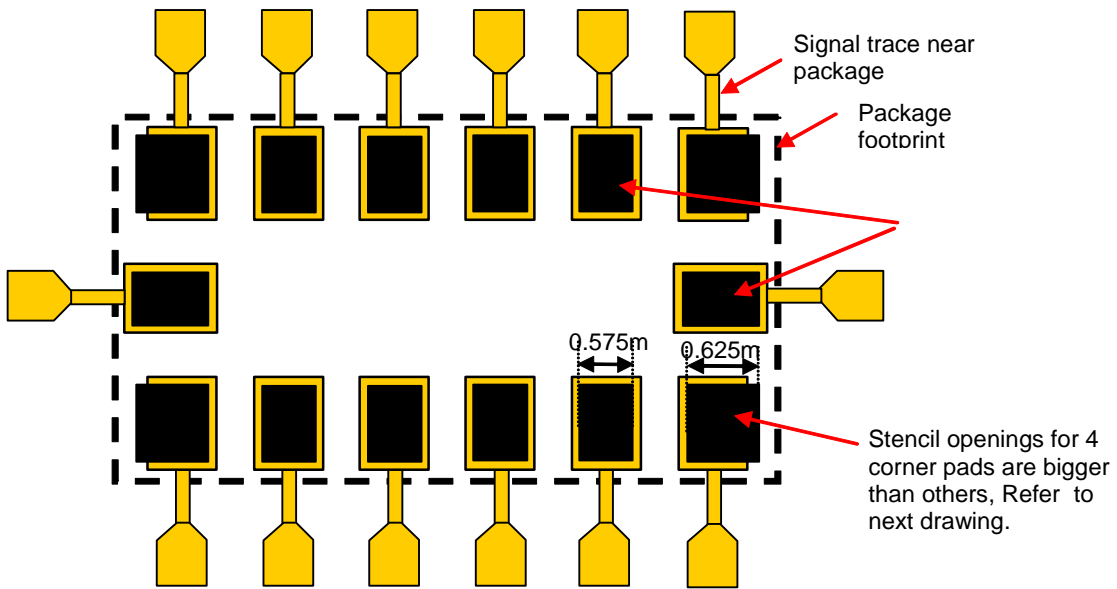

**Figure 4. Correct PCB Top Metal Pattern Under Package**
2. No additional metal pattern underneath package as shown in Figure 4.